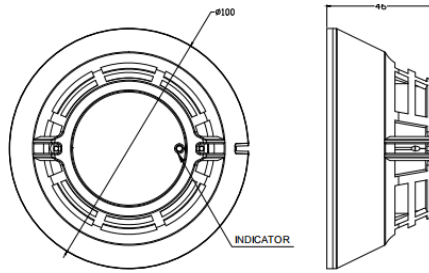

Fig.1(unit:mm)
4. Appearance and dimensions (see Fig.1)